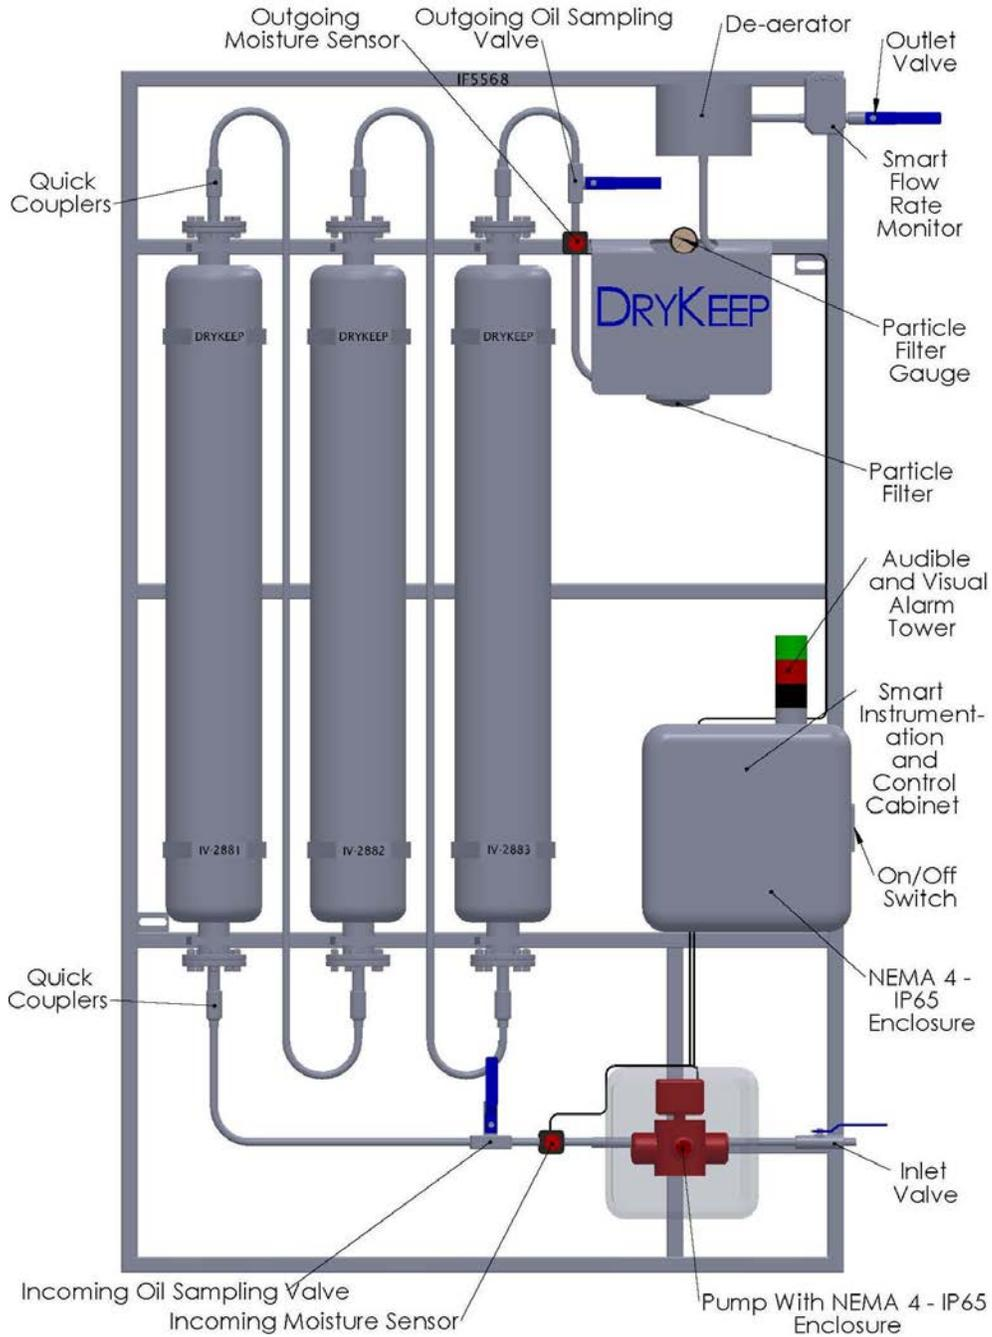

Figure 1: DryKeep® system layout
DryKeep® is shipped from the factory fully assembled as shown in figure 1 below.
The cylinders are factory filled with transformer oil and molecular sieve adsorbent beads. The unit can be mounted as received, or the cylinders can be removed prior to mounting to lighten the load and ease the installation process. The rest of the components are to be left on the framework. The DryKeep® system must be mounted vertically with inlet valve and the pump located at the bottom and de-aerator at the top. (Refer to Figure 1).
- 1) Upon receipt at the installation site, remove the top of the DryKeep® crate and unscrew the four (4) 1½" lag screws used to bolt the DryKeep® frame to the shipping crate.
- 3) *Refer to Figures 1, 4, and 5.* To connect DryKeep® to the transformer, first remove the shipping plugs from the DryKeep® inlet and outlet valves.
- 3) Refer to Figure 1. Ensure that the DryKeep® outlet valve is closed.
- 14) Refer to Figure 1. Now that the pump is running, slowly open the bleed valve on the de-aerator tank. It is recommended that the installer have a vessel on hand to capture any oil that may come out of the bleed valve while it is open. Ensure that all the trapped air in the system escapes through the bleed valve on the de-aerator tank.